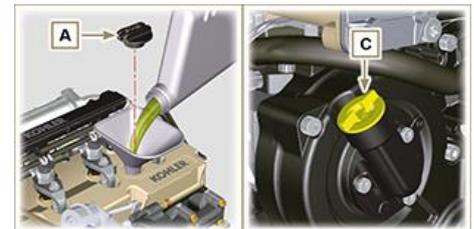

Fig. 5.2
4. Re-tighten the cap **A** and/or **C** (**Fig. 5.2**).